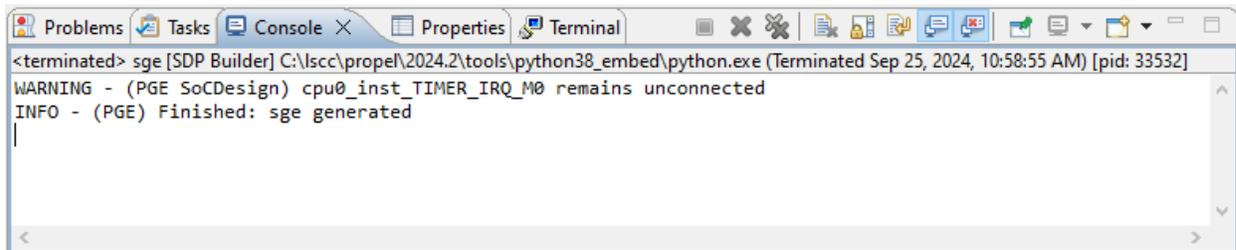

Figure 3.21. Build Result of SoC Project
3. Check the building result in the **Console** view (Figure 3.21).